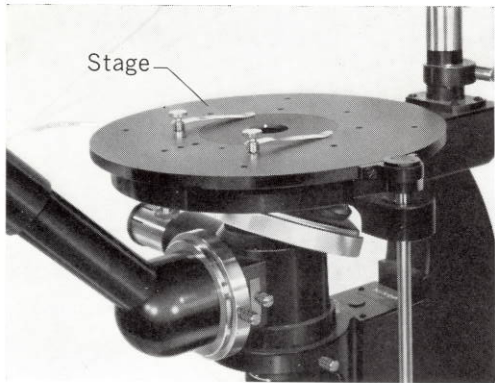

Fig. 29
- The stage (Fig. 29) floats on an oil layer, with its sliding range covering 20 mm in diameter. It moves smoothly in the direction in which the finger pushes.